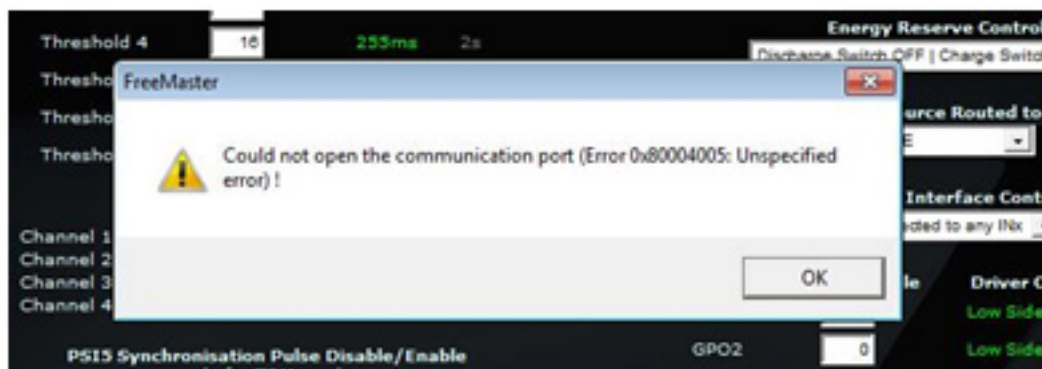

**Figure 14. ARP Graphical User Interface File/Start**
9. Open "File/Start communication" to establish the connection. See Figure 14.